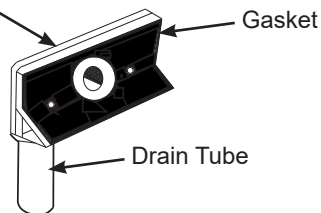

Fig. 1
1. The gasket should be placed on the cover plate (with 1/2" hole) with screw holes in the gasket lined up with screw holes in cover plate. Then insert drain tube (from gasket side) through gasket and cover plate (see Fig. 1).